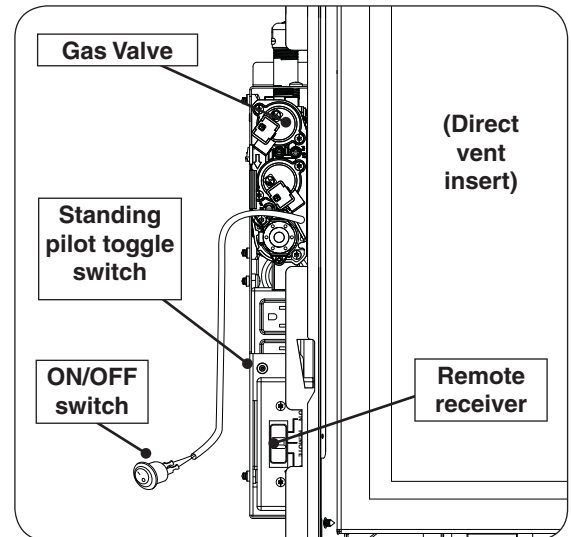
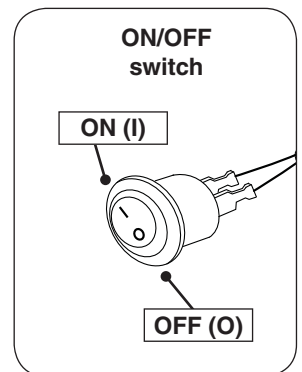

Fig. 30-1 Control box (left side of unit)
Fig. 30-4
2. Locate the ON/OFF switch that is currently coming out of the control box (see Fig. 30-1). Switch it to the **ON (I)** position (see Fig. 30-4). All burners should ignite. At this time with burners on, perform the gas pressure test as instructed in the following section.